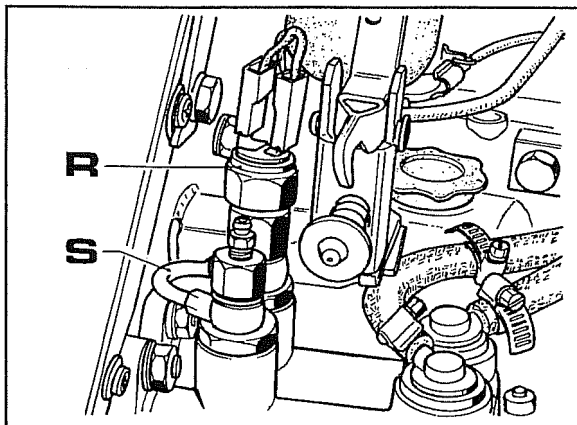

Fig. 4
- 1 Remove the brake light bulb **R** and the by-pass valve tube **S** (Fig.4).
- a. Remove the brake light bulb **R**, the by-pass valve tube **S** (Fig.4) and then disconnect the delivery and suction lines.